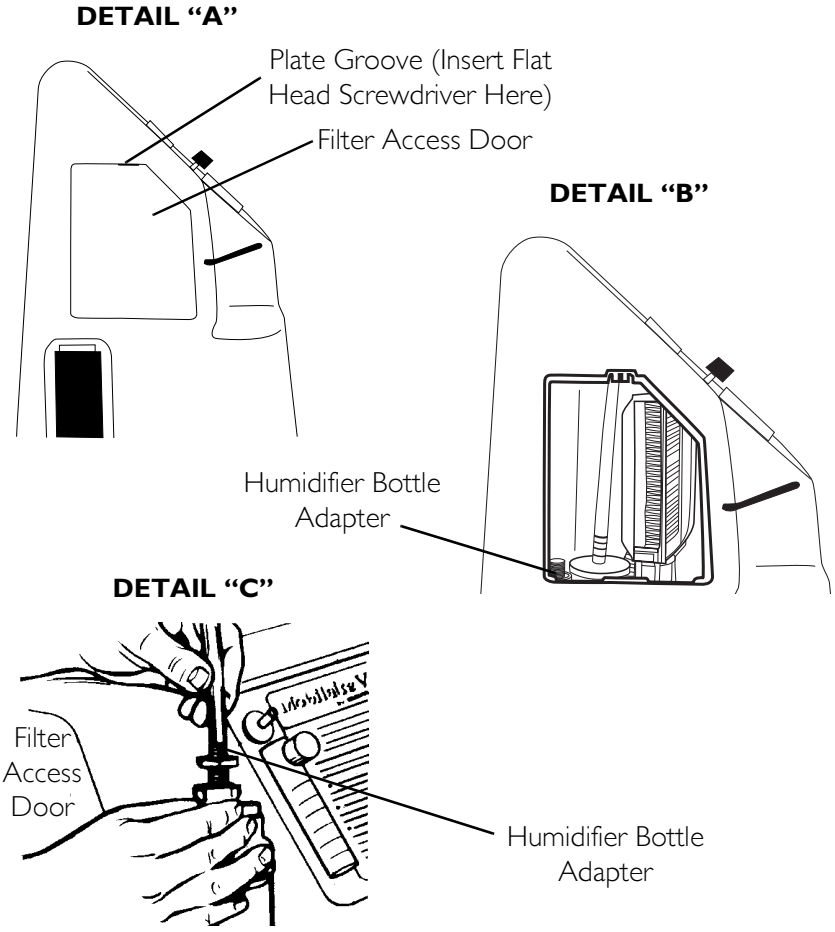

FIGURE 5.3 Attaching the Humidifier Bottle Adapter
3. Remove the filter access door located on the side of the concentrator. Insert a flathead screwdriver in the plate groove on the top edge of the filter access door and gently pry the filter access door open. Refer to Detail "A" in FIGURE 5.3.
4. The humidifier adapter is next to the inlet filter. Pull up and remove the humidifier bottle adapter. Refer to Detail “B” in FIGURE 5.3.
5. Attach it to the humidifier by turning the wing nut on the humidifier bottle counterclockwise until it is securely fastened. Refer to Detail “C” in FIGURE 5.3.